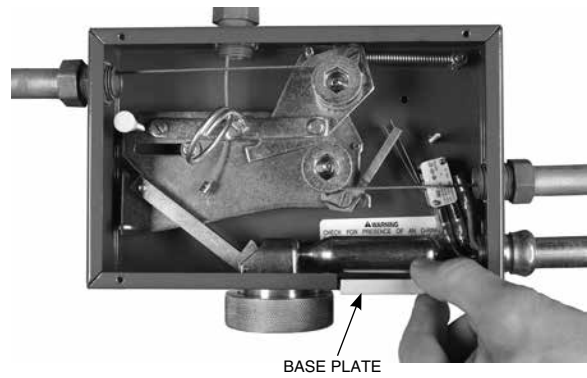
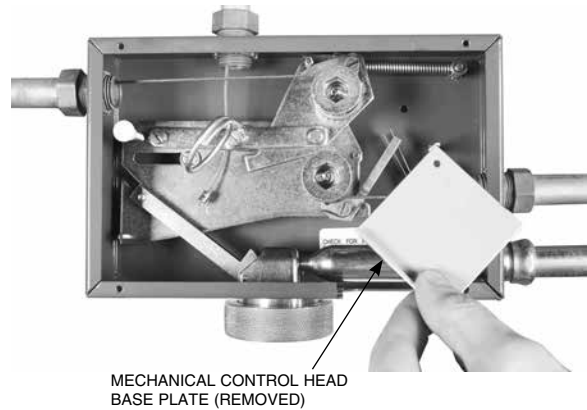

FIGURE 5
FIGURE 6
5. Pull out and remove the mechanical control head base plate. See Figure 5 and Figure 6.